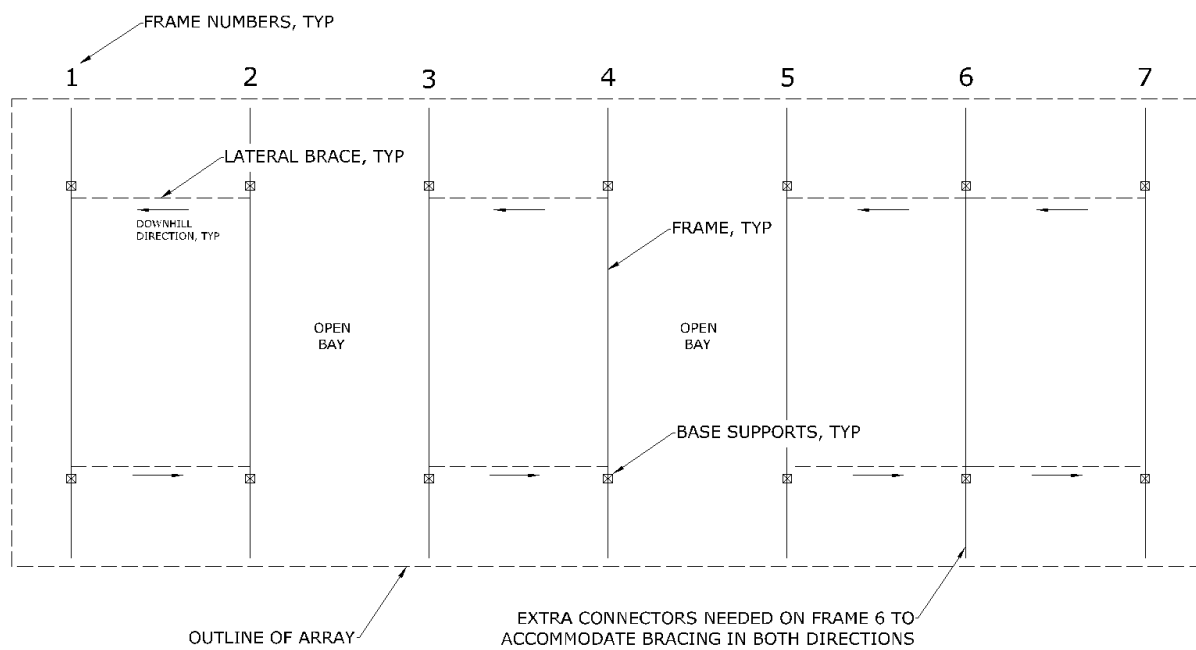

FIGURE 6
After the Gaskets are in place, install the Base Assemblies. Refer to the shop drawings to determine the correct Base Assembly for each frame. Base Assemblies are attached with (8) Bolts with Poly Washers, Part# B11. The bolts thread into pre-tapped holes in the top of the Base Support. Start the bolts by hand, threading each one a few turns to make sure they are not cross-threaded. Once all 8 bolts are started, tighten the bolts moving in a crisscross pattern similar to tightening lug nuts on a car wheel. Do not tighten the center bolt in the RotoLock of the Base Assembly at this time. See Figure 6.